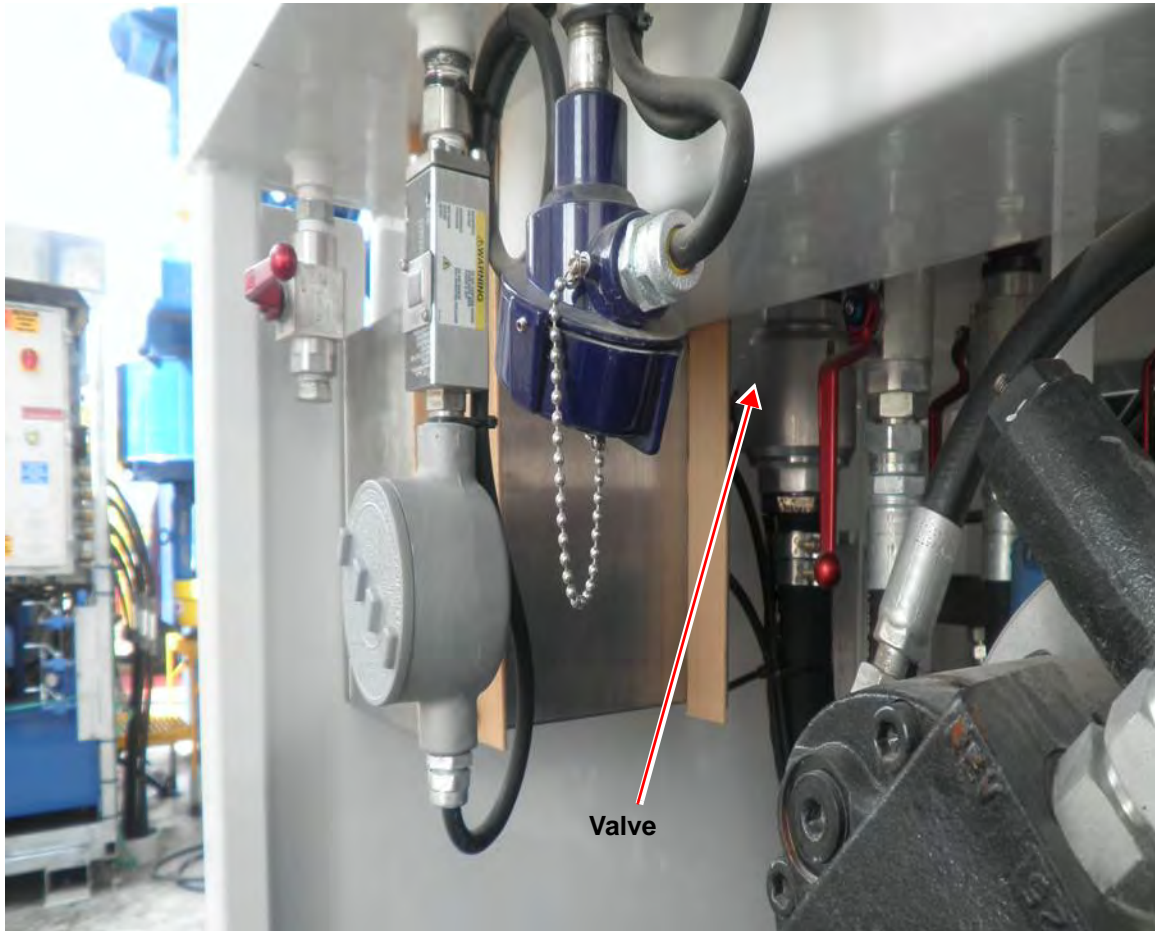

Figure 10: Valve
- Using an allen wrench, remove the valve handle and key (See Figure 10). Rotate key and replace valve handle to close in the opposite direction for proper clearance.